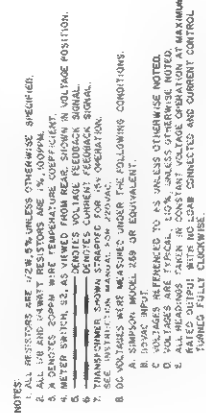

Figure 7-2. Model 6216A, Schematic Diagram
b. Schematic Diagram, Figure 7-2, which illustrates the circuitry for the entire power supply. Voltages are given adjacent to test points, identified by encircled numbers on the schematic and printed wiring board.